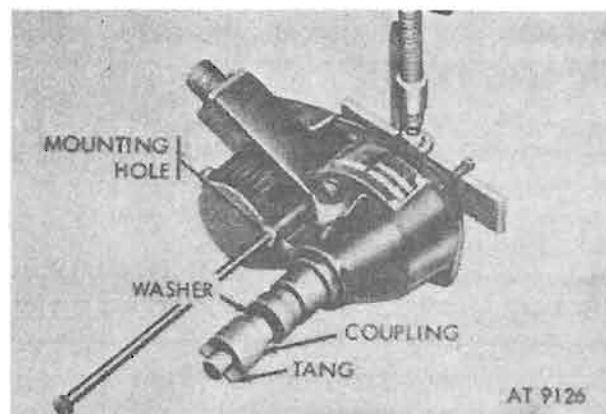

Figure 6-10. Install coupling on distributor shaft.
(4) Invert housing and install suitable-size bolt in distributor mounting bolt hole (fig. 6-10).
(5) Install one washer on shaft and slide coupling on shaft (fig. 6-10).